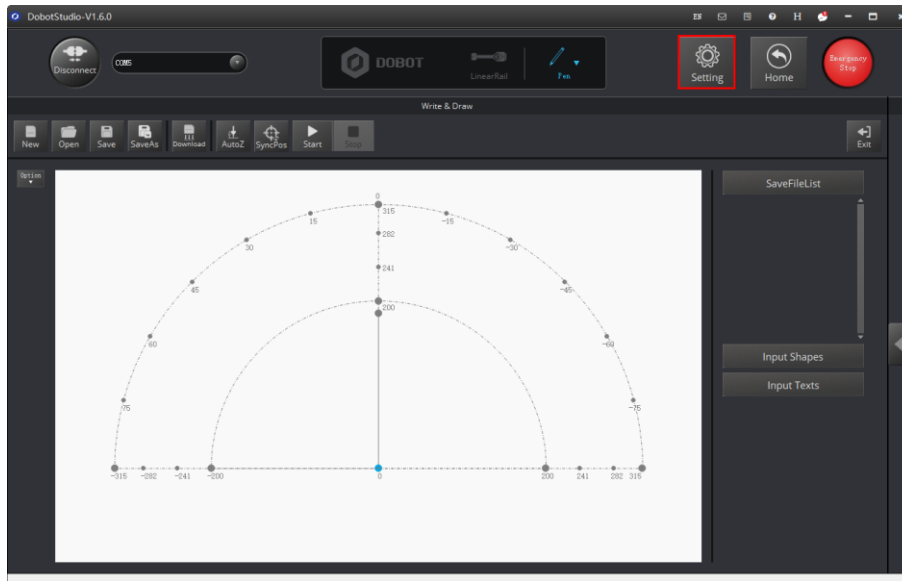

Figure 5.75 Click Setting
1. Click **Setting** on the **Write & Draw** page, as shown in Figure 5.75.